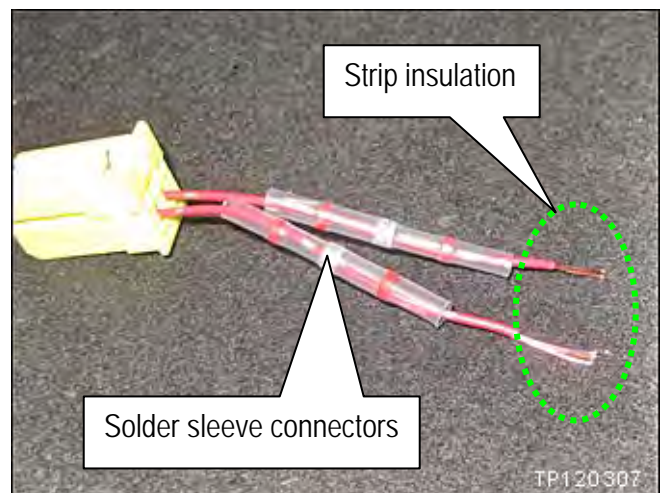

Figure CR29
27. Install solder sleeve connectors on the wires as show in Figure CR29.